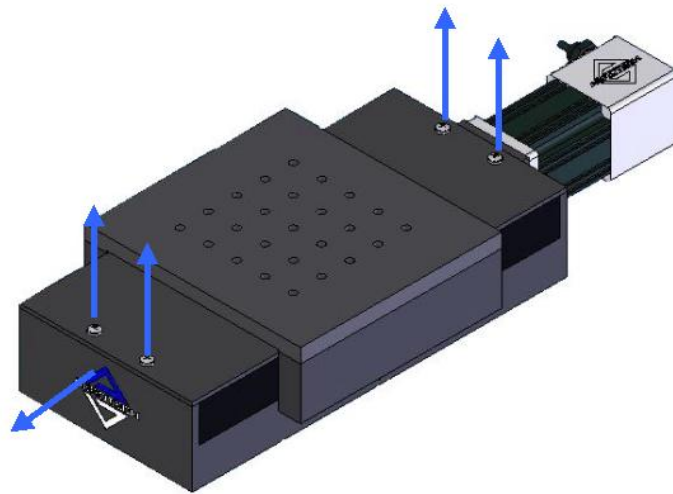

Figure 4-1: Hardcover Removal Procedure
- a. Hardcover Configuration: Remove the screws on the edges of the hard cover (Figure 4-1) and slide it out from the side opposite of the motor. This can be done without removing the table.